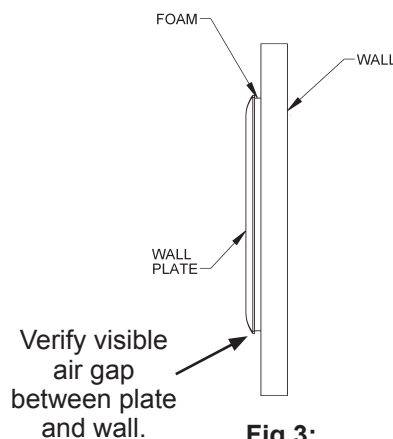

Fig 3:
4. Tighten screws until the foam gasket on the back plate is compressed about 50%. Ensure the plate doesn't touch the wall (Fig 3).